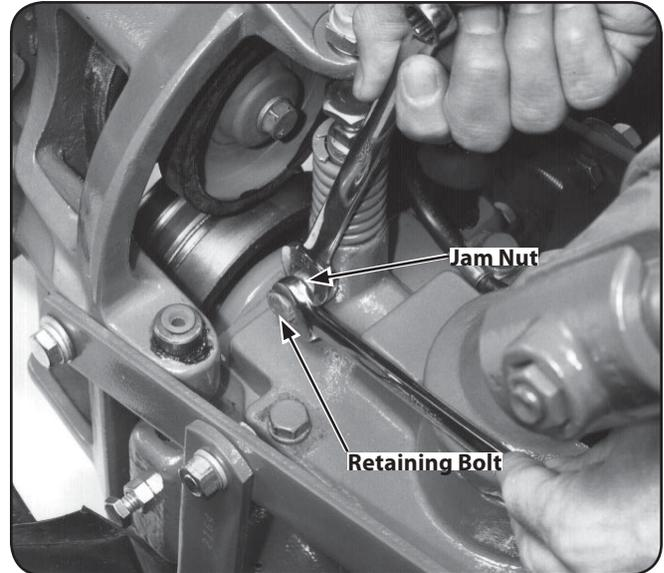

Figure 6-22
- On the left side of the tiller, put a $\frac{1}{2}$ " wrench on the plunger retaining bolt and another $\frac{1}{2}$ " wrench on the jam nut next to it. See Fig. 6-22.
9. Hold the plunger retaining bolt steady with a wrench while tightening the jam nut against the side of the plunger housing. See Fig. 6-22.